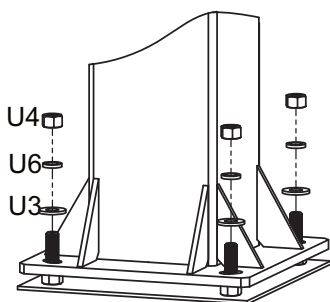
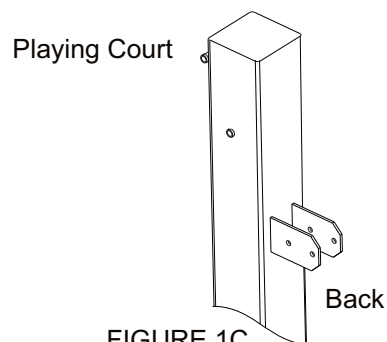

FIGURE 1B
FIGURE 1C
- Remove the Padding from Main Post (A). Place the Main Post (A) over the J-Bolts. Slide a 16mm Thick Washer (U3), a Lock washer 16mm (U6) and thread a 16mm Hex Nut (U4) to each J-bolt. Tighten the Nuts only a few turns onto the J-Bolts as shown in FIGURE 1B.
- If the Main Post (A) is not exactly vertical, adjust the 16mm J-Bolt Hex Nuts (U4) located under the Post base. Tighten all of the Hex Nuts (U4) Above Post base when Main Post (A) is vertical.
NOTE: Face the Main Post (A) with Actuator Bracket facing away from playing court (as shown in FIGURE 1C).